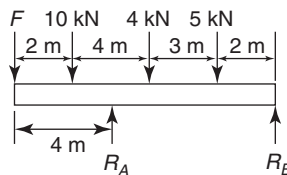

Figure 5.21
8. A uniform girder carrying point loads is shown in Figure 5.21. Determine the value of load F which causes the beam to just lift off the support B . [3.25 kN]